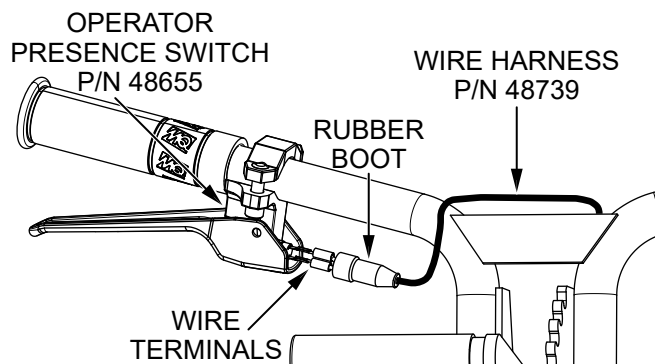

Figure 10. Connect Wire Harness
- Connect the **wire harness** (P/N 48739) to the **operator presence switch** (P/N 48655). Slide the **rubber boot** back to reveal the harness **wire terminals**, then connect the terminals to the switch as shown in Figure 10. It does not matter which color wire connects to which pin on the switch. When finished, slide the rubber boot back in place to cover the terminals and the back of the switch.